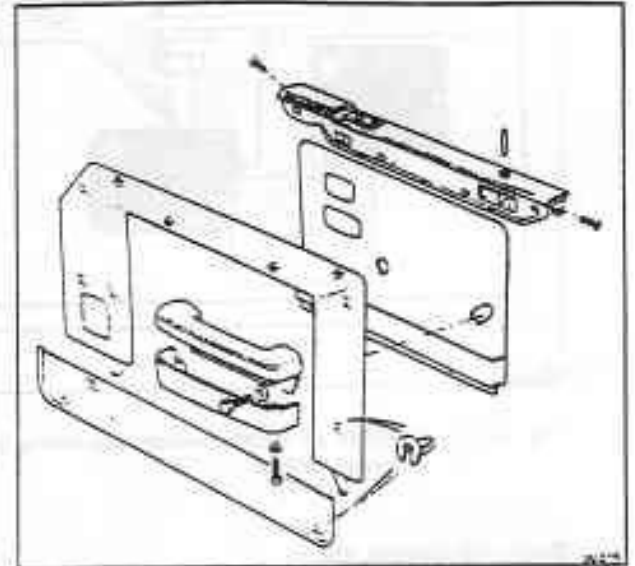

Fig. S3-1 Door trim
Door trim - To remove (see fig. S3-1)
Door trim - To fit (see fig. S3-1)
2. Remove the outer trim panel (see fig. S3-1).